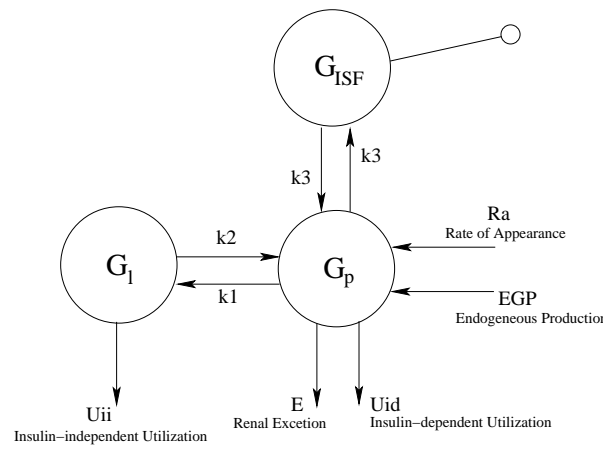

Figure 6.1 Interstitial and Plasma Glucose compartment kinetics.
- 6.4** Subcutaneous Delay: Show that the interstitial glucose value is a first-order low-pass filtered version of the plasma glucose value considering the kinetics according to Fig. 6.1, i.e., that the transfer function is of the form $G = K \frac{1}{1+s\tau}$.